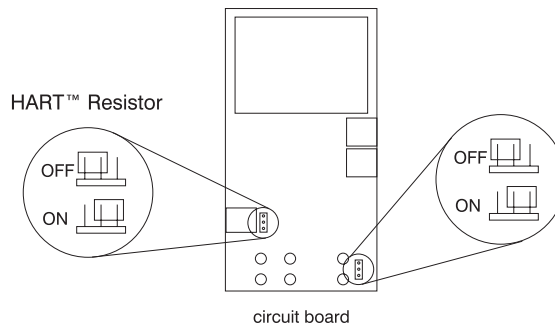

Figure 10a.
4. Figure 10a. shows the location of the HART™ jumpers.